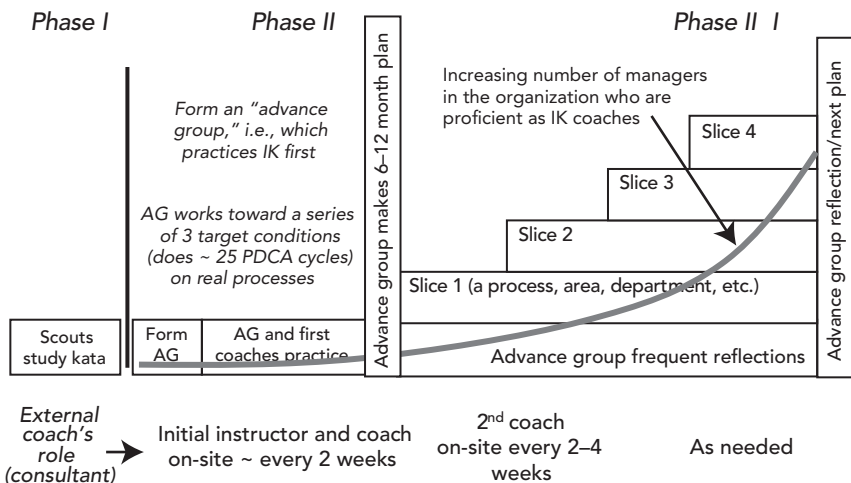

Figure C.6 One model for deploying practice.
When we think of a model line, we often think of the challenge statement as a big financial result, but the more difficult challenge is developing the capability of people. In fact, process improvement and people development go hand in hand. In Rother’s model there is a key role for managers as coaches who develop scientific thinkers who practice the improvement kata. The chicken-and-egg problem is that those managers need to be coaches, but first they have to be learners to build their competencies and know-how by taking on a business challenge and practicing the improvement kata pattern to work scientifically toward it. We saw an example of this in the way Dallis was trained when he entered Toyota (see Principle 9 on leadership). The constraint at first is that there are few or no qualified coaches inside the organization. The ideal state is to have all coaching done internally with managers coaching their own teams. Figure C.6 provides one example of how this might work following the kata model. The job of the “advance group” (AG) of leaders is to monitor and guide the process (PDCA). First these leaders scout out what the kata is to see if they are interested, and then they practice it themselves with an experienced (possibly external) coach. With that experience they are then in a position to develop a plan for the next 6 to 12 months for how many coaches they will develop. This is not the usual plan with a series of milestones and dates. Rather it is a challenge to the organization.